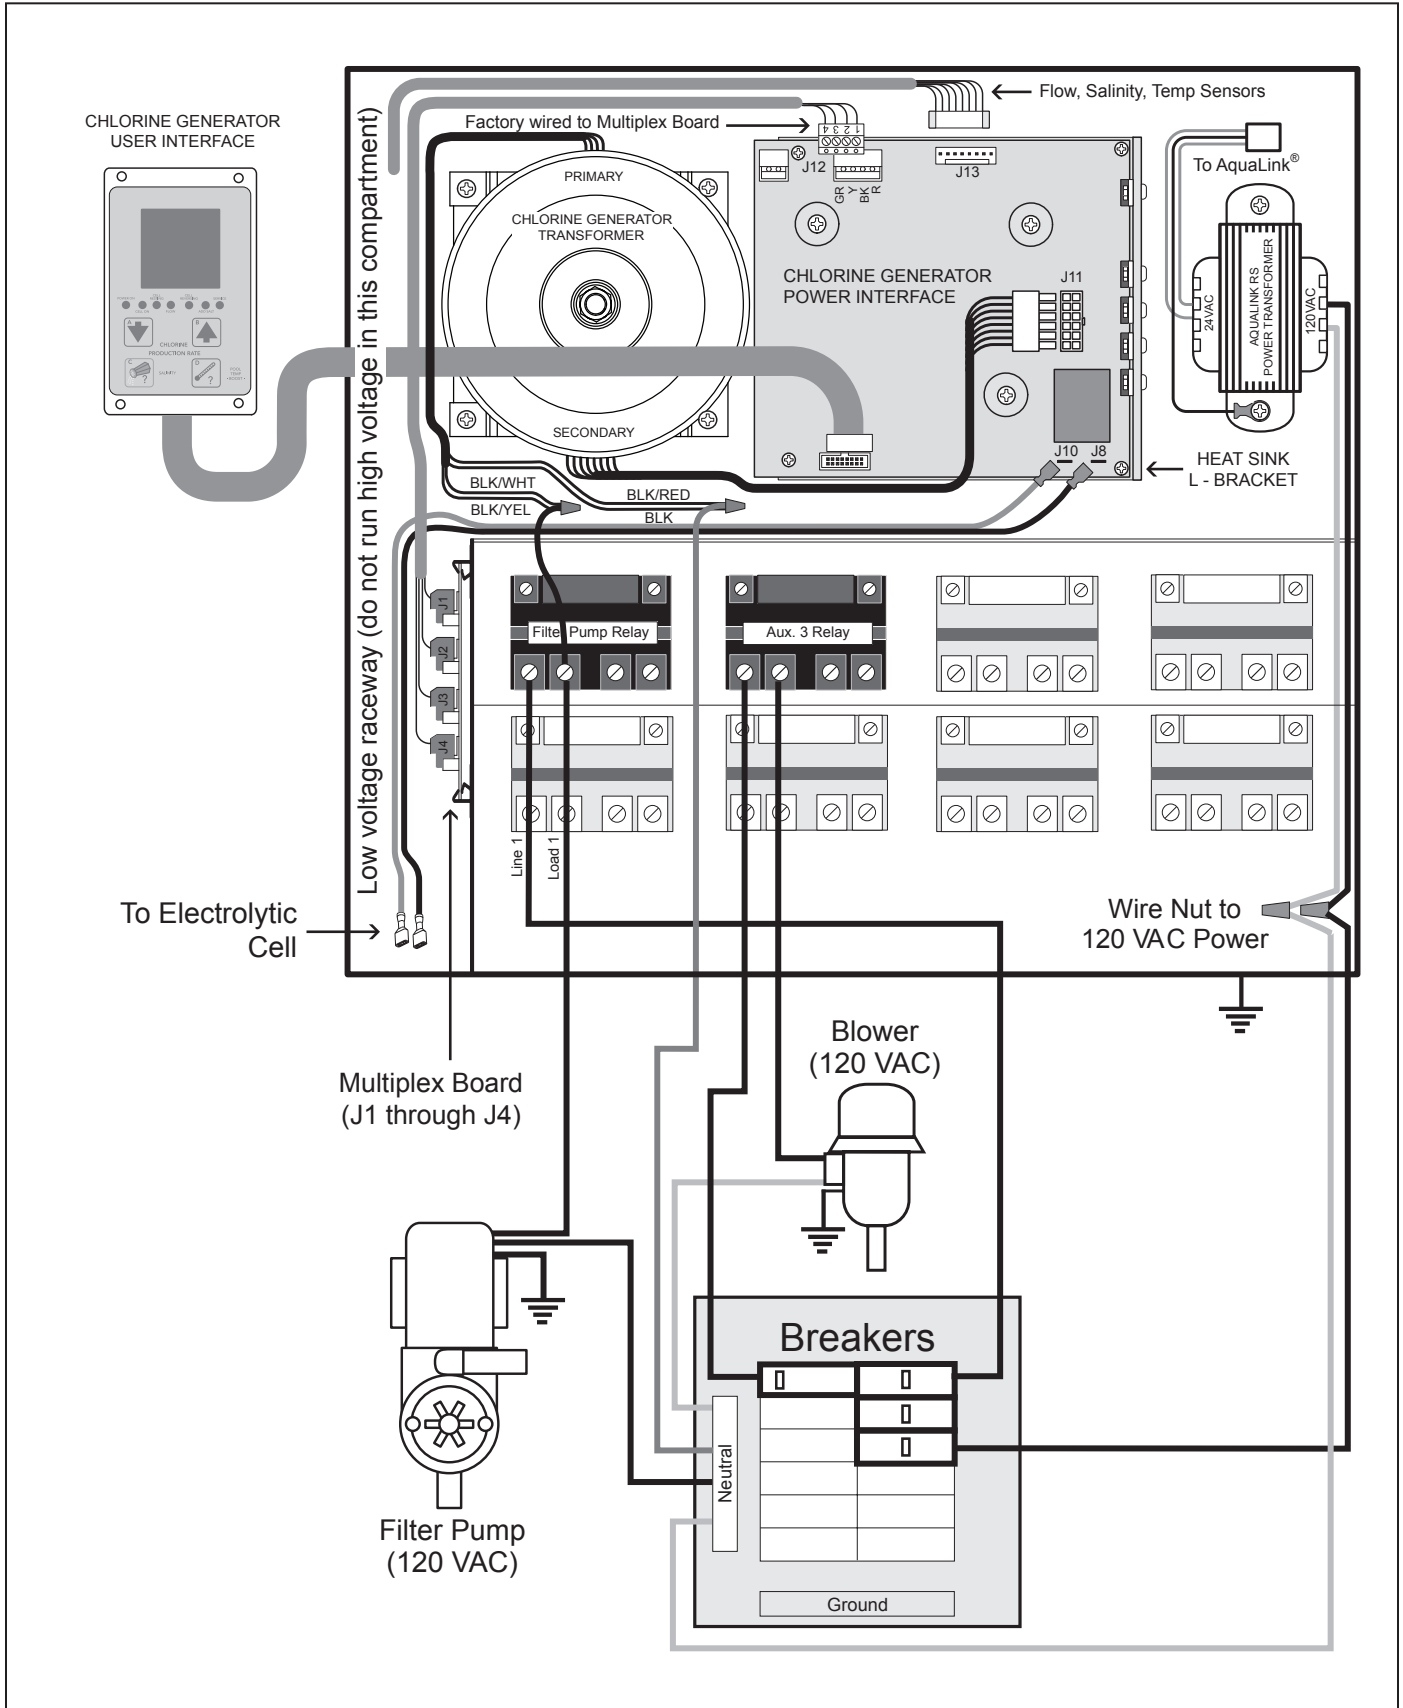

Figure 2b. Wiring Diagram for the PureLink™ System with a 120 VAC Filter Pump
The electronics for the salt water chlorinator are factory wired for 240 VAC service. If the available electrical service is 120 VAC then the power supply wiring must be changed to operate on 120 VAC as shown in Figure 2b.
- Check source voltage. (All units are factory wired for 240 VAC). ***In order to use on 120 VAC, the internal factory wiring of the power center must be changed. (See Figures 2b and 2c).***